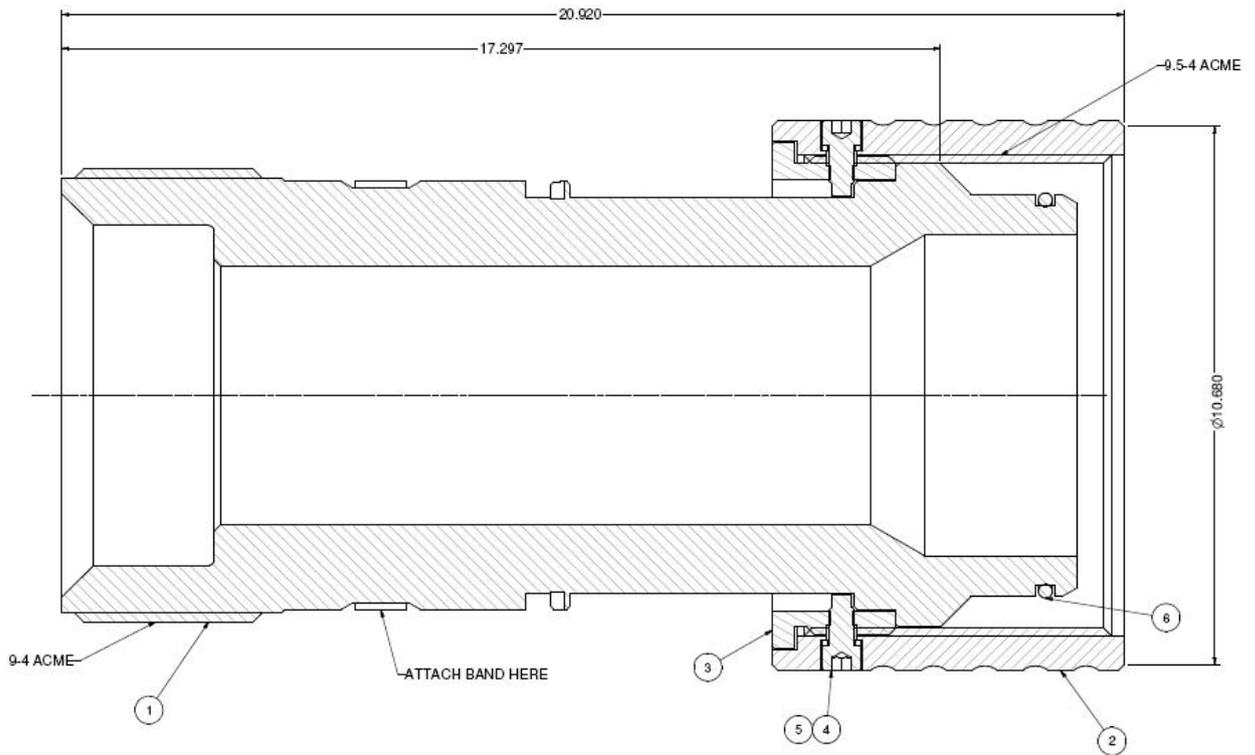

Figure 2: X-Over Assembly
Note: Thread protectors (items 100 and 101) not shown on Assembly Drawing (Figure 2)